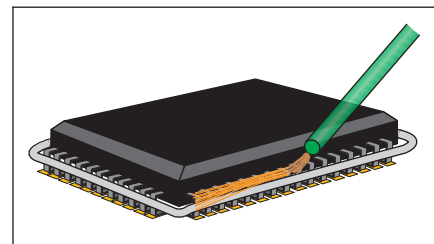

Figure 3 Apply Flux
8. Apply flux to all the leads. (See Figure 3.)